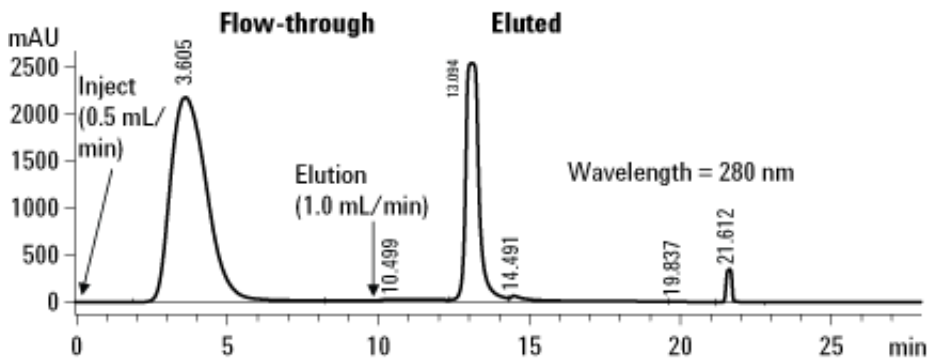

Figure 3 Representative chromatogram for 4.6 x 100 mm column.
- 2 Collect the flow-through fraction (like that which appears from 3 to 7 min in the typical chromatogram shown in Figure 3 on page 16). Store collected fractions at -20 °C if not analyzed immediately.